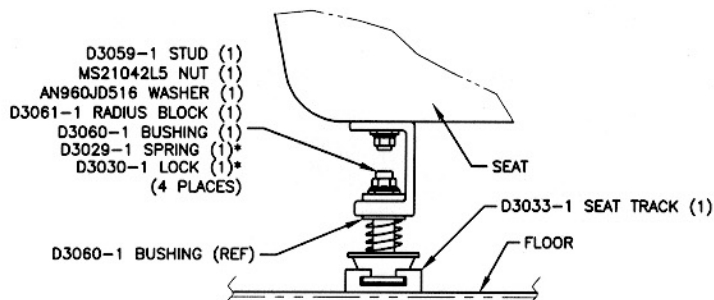

FIGURE 2. STUD INSTALLATION
1. INSTALL STUD FITTINGS ON EUROCOPTER SEAT SLIDES (REF. 350A77-1116-2401 & 350A77-1117-24) AS SHOWN IN FIGURE 2. THE CENTER OF THE STUD FITTINGS SHOULD BE 14.0" (356 mm) APART.